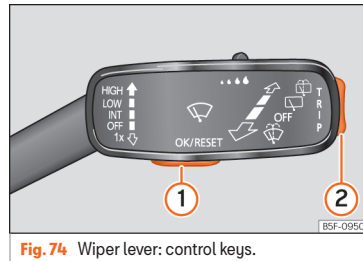

Fig. 74 Wiper lever: control keys.
menu. Some warnings can be confirmed and hidden with the button » **Fig. 74** ①.